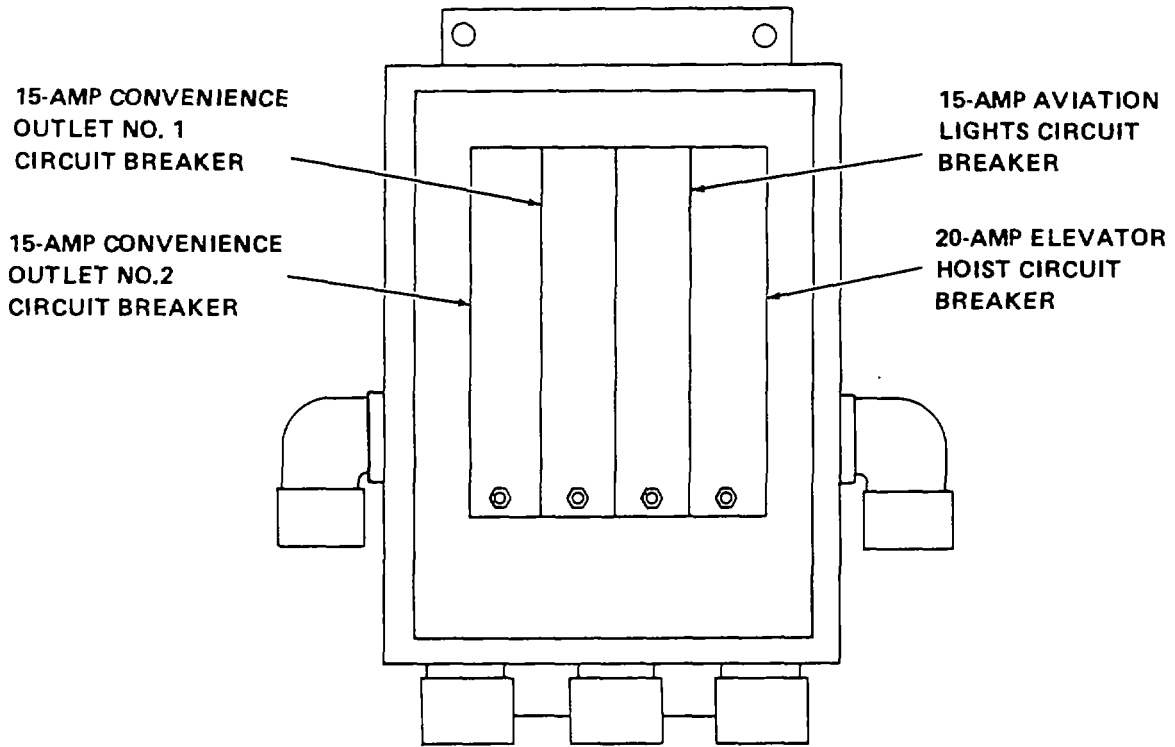

Figure 3-2. Junction Box Operating Controls
| JUNCTION BOX (figure 3-2)                       |   |
**3-3 PRELIMINARY STARTING PROCEDURES.** Refer to figure 3-2. Take the following steps before operating the equipment of Antenna Tower TS-9A:
- (1) 15-ampere convenience outlet number 1.
- (2) 15-ampere convenience outlet number 2.
- (3) 15-ampere aviation lights.
- (4) 20ampere elevator hoist.